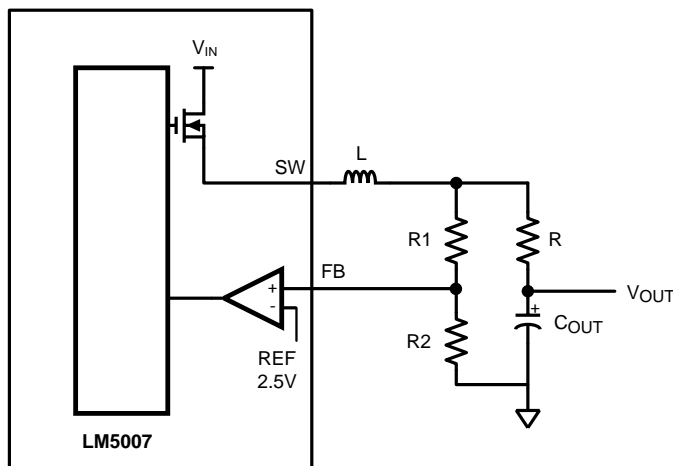

Figure 4. Low Ripple Output Configuration
The output voltage (V_{OUT}) can be programmed by two external resistors as shown in Figure 4. The regulation point can be calculated as follows:
For applications where lower output voltage ripple is required the load can be connected directly to the low ESR output capacitor, as shown in Figure 4. The series resistor (R) will degrade the load regulation. Another technique for enhancing the ripple voltage at the FB pin is to place a capacitor in parallel with the feedback divider resistor R1. The addition of the capacitor reduces the attenuation of the ripple voltage from the feedback divider